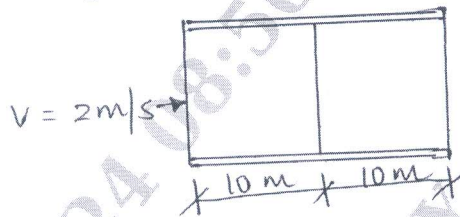

Fig. Q8 (b)
- b. For a smooth pipe with uniform cross section of  $1 \text{ m}^2$ ; determine the flow velocities at the centre and at the right end of the Fig. Q8 (b). Given velocity at the left is  $2 \text{ m/sec}$ .